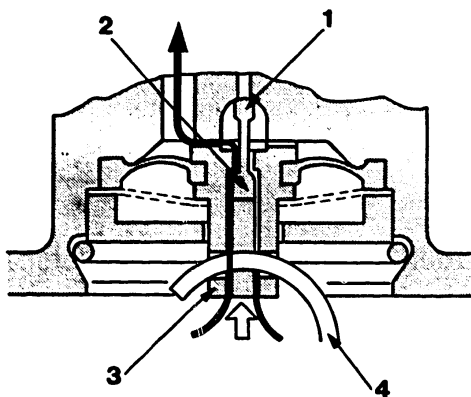

Fig. 25 V.R.V. operation (when the set force of the spring is less than the output pressure)
When the control lever is moved toward the full-speed position, the set force of the spring (4) becomes less than the output pressure. The disk then moves upward, closing valve A and opening valve B, and allowing air to enter the output side through the ventilation port (10). (Fig. 25)